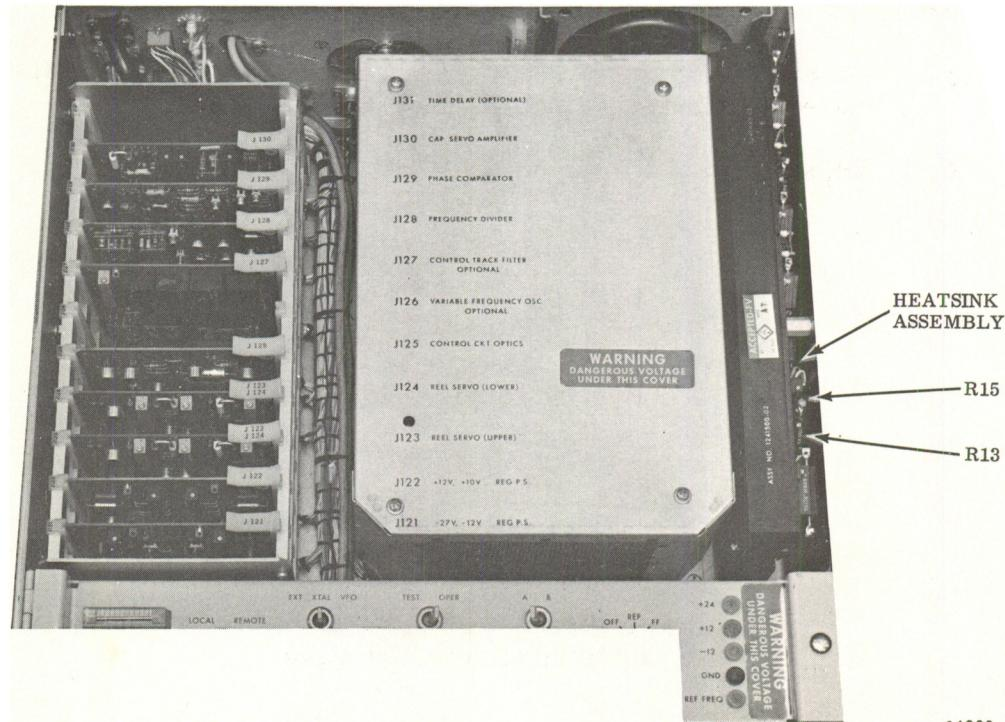

Figure 5.2-5. System Control Bay
5.2-13 There are five power supply voltage regulators located in the system control bay. (See Figure 5.2-5.) Four of the five are mounted on two printed circuit cards located in the card rack. One card contains the -27 vdc and -12 vdc regulators, while the other card comprises the +10 vdc and +12 vdc regulators. The +24 vdc regulator is located in the primary +24 vdc power supply within the system control bay. Adjust the +24 vdc power supply regulator first since power to the other regulators is supplied from this source. Initial alignment is accomplished with the SYSTEM POWER circuit breaker ON and TRANSPORT POWER OFF.
- c. Remove the upper reel servo card from J123, in the system control bay. (See Figure 5.2-5.) Insert the upper reel servo card into the extender card and plug the extender card into J123. Ensure that a jumper is placed between J1 and J2.
- a. Remove power from the system and remove the capstan compensation and brake amplifier card from J130 of the system control bay. (See Figure 5.2-5.)
- c. Rotate R15, on the heat sink assembly, fully counterclockwise. Then connect the vtvM across R13, on the heat sink assembly with the negative probe to the ground side. See Figure 5.2-5 for location of R15 and R13 on the heat sink.